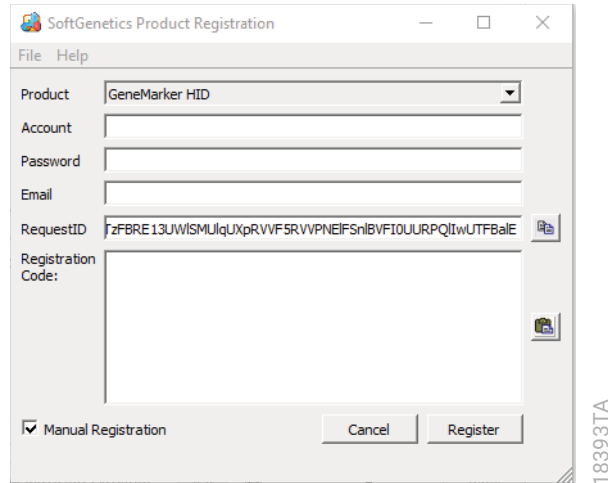

Figure 38. Selecting ‘Manual Registration’ from the ‘SoftGenetics Product Registration’ window.
If the Online Registration process failed, select the “Manual Registration” check box in the ‘SoftGenetics Product Registration’ window (Figure 38).
1. Select the **Copy** button to the right of the 'RequestID' field from the 'SoftGenetics Product Registration' window (Figure 38). Paste the ID and type your Account (GMHIDSPECTRUM) and password into the body of an e-mail and send it to: **tech_support@softgenetics.com**